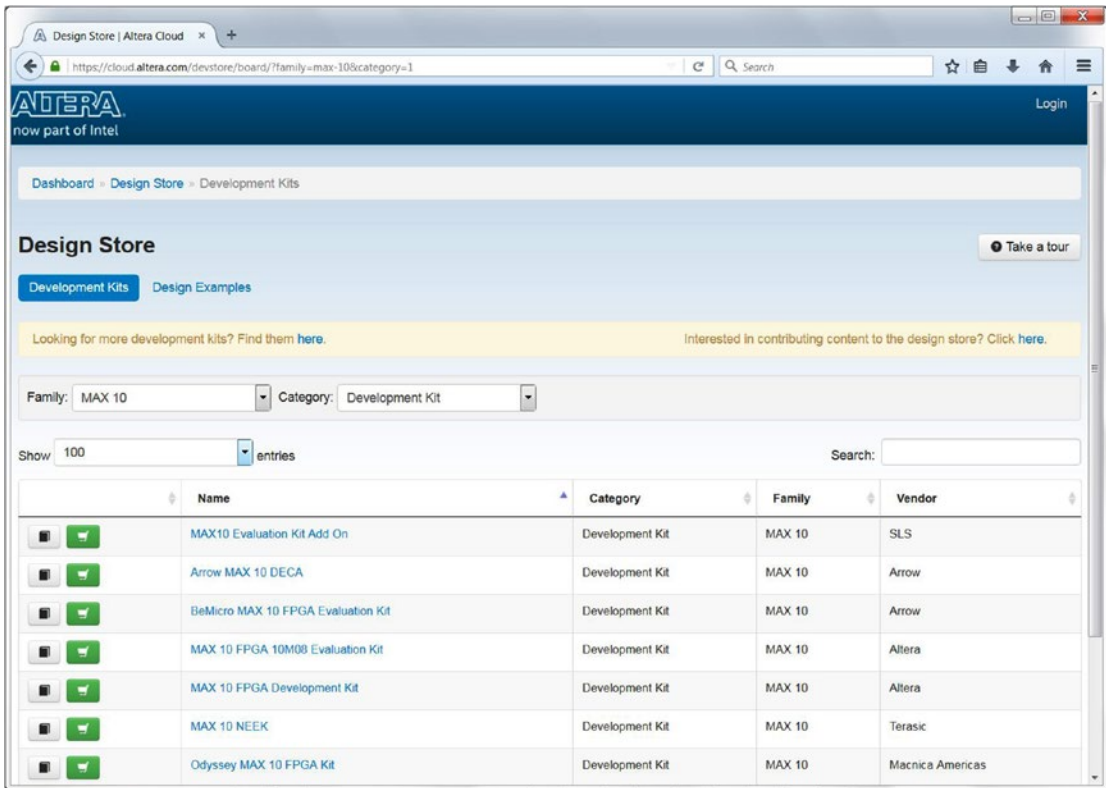

Figure 4-7. Altera Design Store with selected Family: MAX10 and Category: Development Kit
7. Select the information shown in the Design Store web page in Figure 4-7: https://cloud.altera.com/devstore/?acds_version=15.1.0
8. Click the **BeMicro MAX 10 FPGA Evaluation Kit** in the page as Figure 4-7 shows.